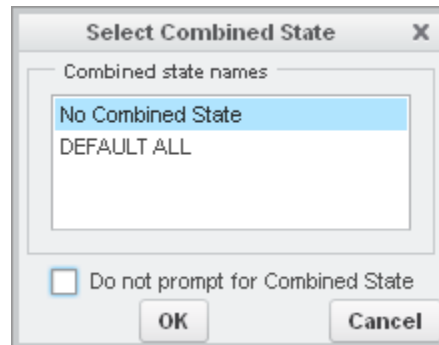

Figure 3: Select Combined States -window.
1. Hold **RMB** on the drawing board and select **Insert General View** (the same can be achieved by clicking on the **General**  icon in *Layout* tab). Keep option **No Combined States** (Figure 3):